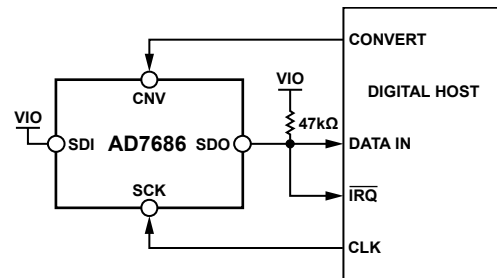
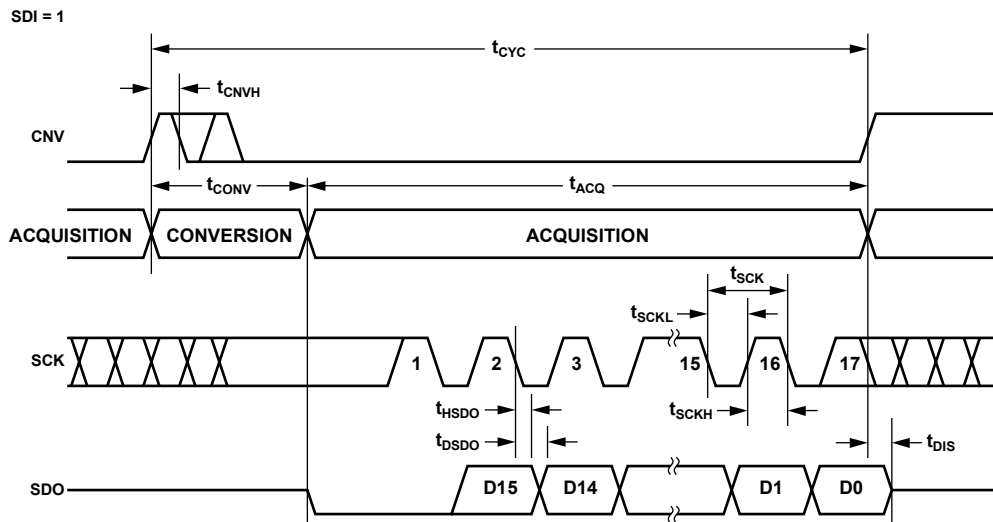
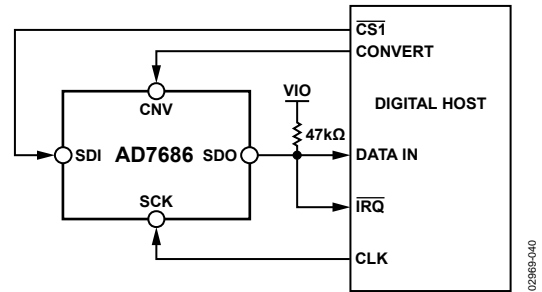
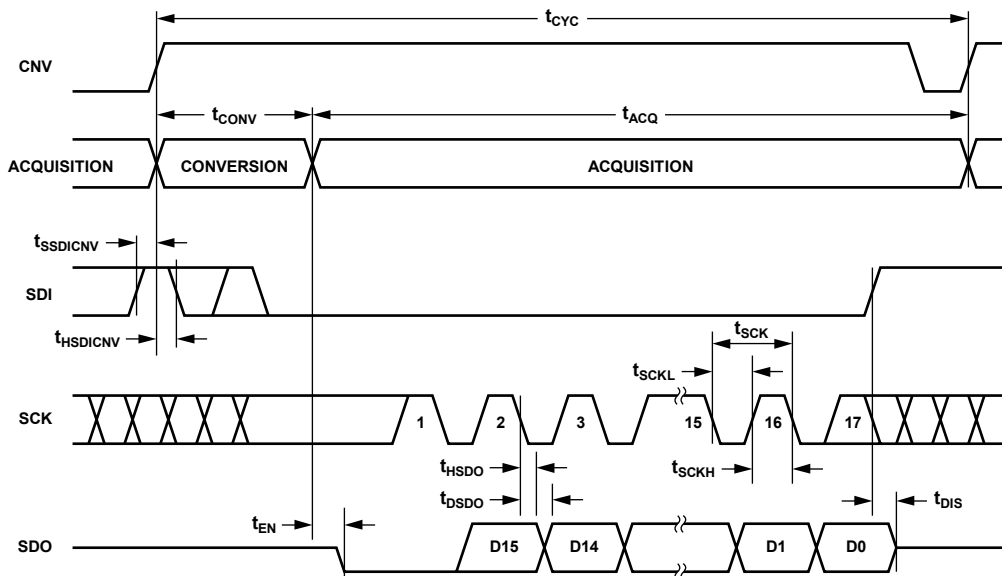

Figure 35.  $\overline{\text{CS}}$  Mode 3-Wire with Busy Indicator Connection Diagram (SDI High)
Figure 36.  $\overline{\text{CS}}$  Mode 3-Wire with Busy Indicator Serial Interface Timing (SDI High)
Figure 39. CS Mode 4-Wire with Busy Indicator Connection Diagram
Figure 40. CS Mode 4-Wire with Busy Indicator Serial Interface Timing
- In  $\overline{CS}$  mode, if CNV or SDI is low when the ADC conversion ends (see Figure 36 and Figure 40).
This mode is generally used when a single AD7686 is connected to an SPI-compatible digital host having an interrupt input. The connection diagram is shown in Figure 35, and the corresponding timing is provided in Figure 36.
This mode is usually used when a single AD7686 is connected to an SPI-compatible digital host, which has an interrupt input, and when it is desired to keep CNV, which is used to sample the analog input, independent of the signal used to select the data reading. This requirement is particularly important in applications where low jitter on CNV is desired. The connection diagram is shown in Figure 39, and the corresponding timing is provided in Figure 40.